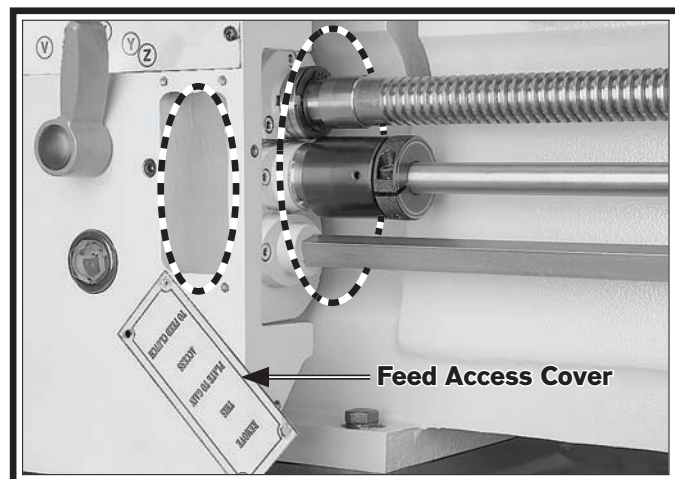

Figure 143. Feed access covers removed.
2. Remove the front and side feed access covers, as shown in **Figure 143**.